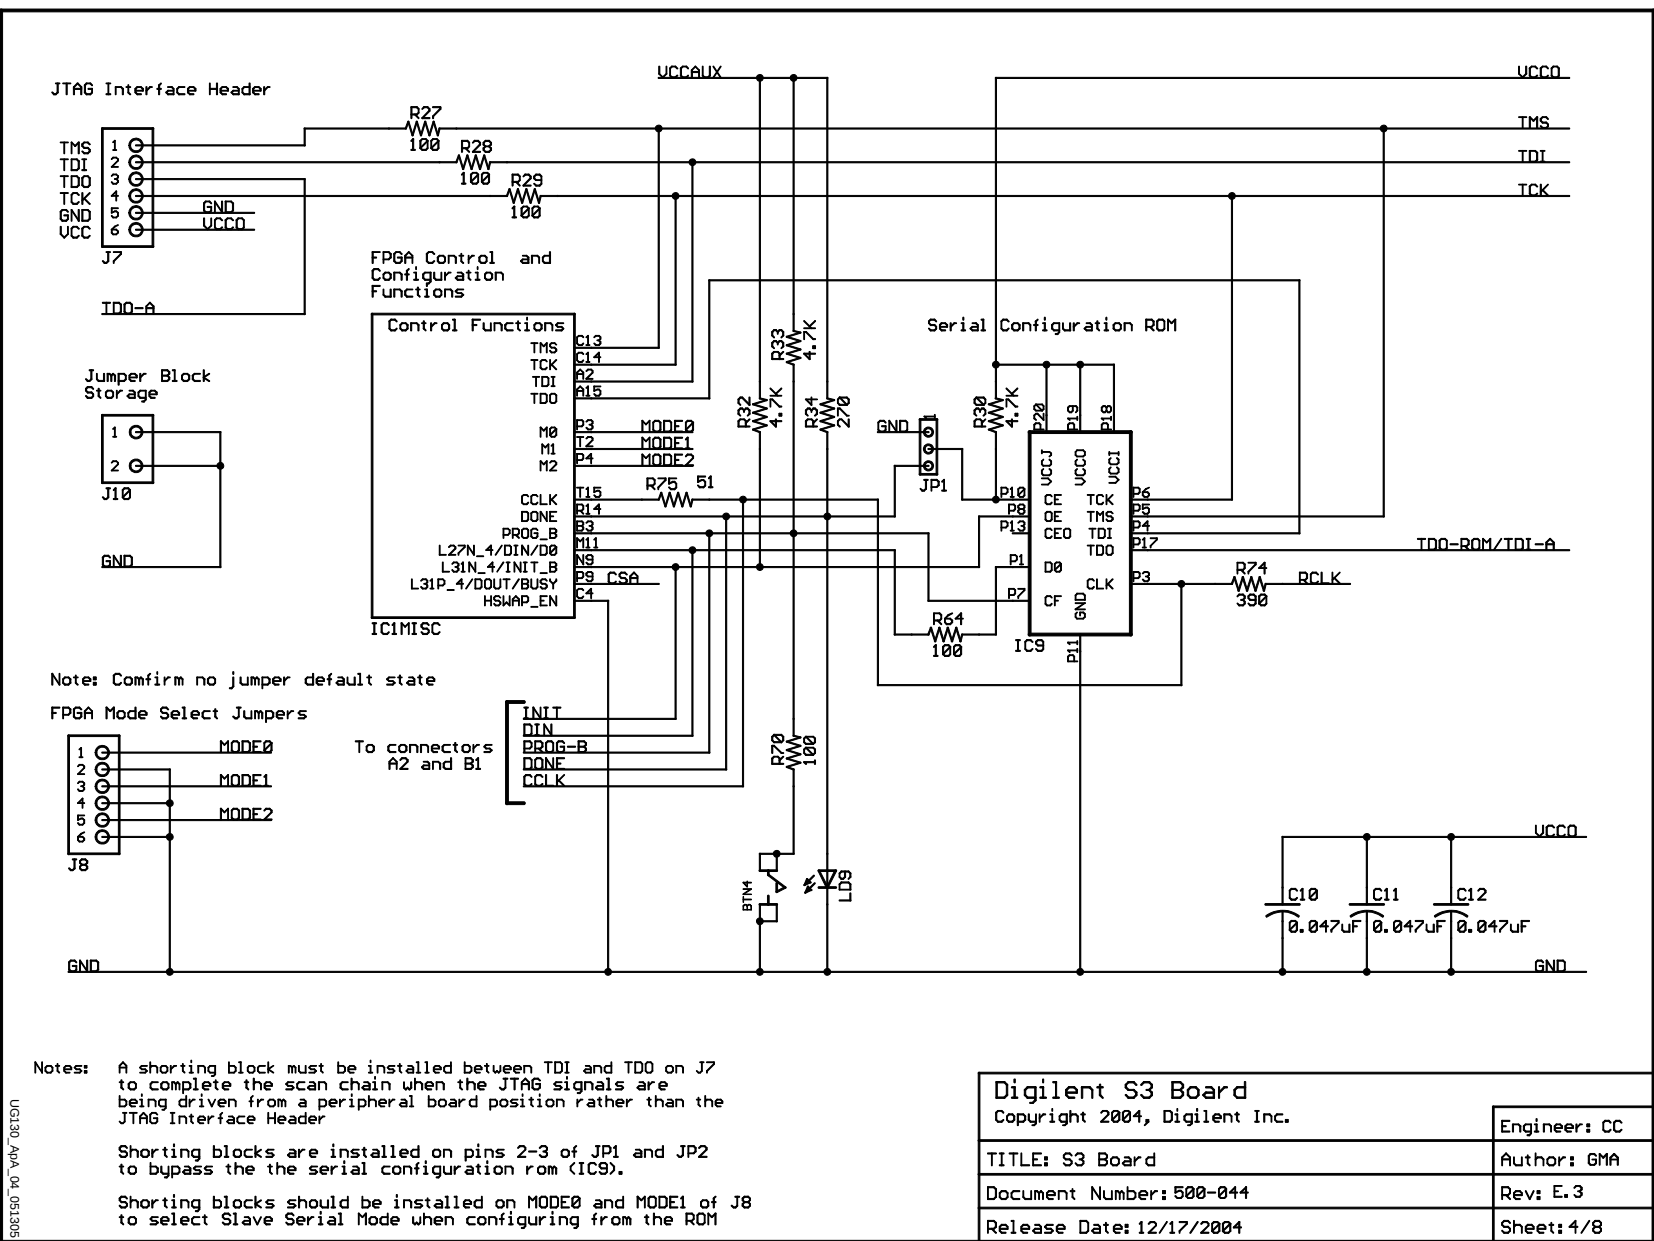

Figure A-4: FPGA Configuration Interface, Platform Flash, JTAG Connections, Jumper JP1
- Figure A-4, “FPGA Configuration Interface, Platform Flash, JTAG Connections, Jumper JP1”